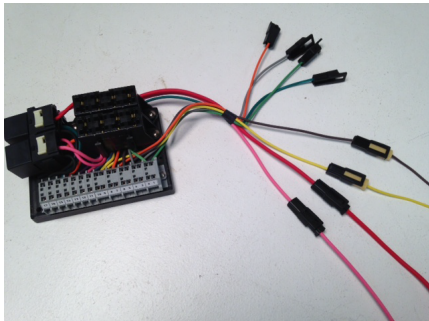

FIGURE 6
2. Connect the brown wire from the new fuse panel to the original brown heater accessory lead as shown at the left in figure 6. (NOTE:) This wire may also be used to supply fused ignition (switched) power to any aftermarket heat or A/C system. Additional ignition fused accessory connections can be made by adding wires (not included with this kit) to the slots numbered 5 & 6 on the new ATO fuse panel.
4. Connect the yellow wire from the new fuse panel to the original yellow radio accessory lead as shown at the left in figure 6. Additional ignition fused accessory connections can be made by adding wires (not included with this kit) to the slots numbered 9 & 10 on the new ATO fuse panel.